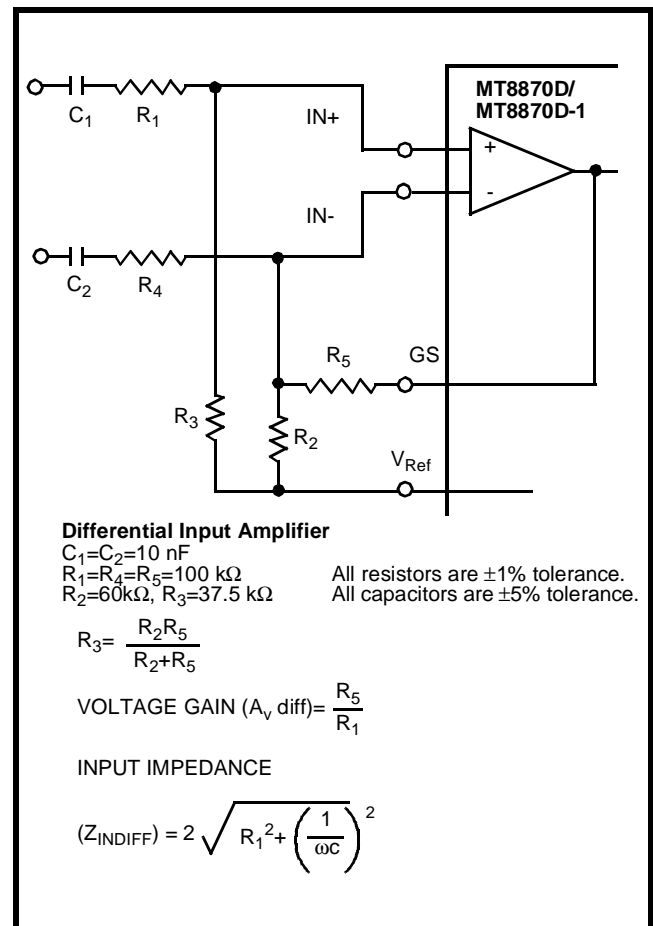

Figure 6 - Differential Input Configuration
The input arrangement of the MT8870D/MT8870D-1 provides a differential-input operational amplifier as well as a bias source (V_{Ref}) which is used to bias the inputs at mid-rail. Provision is made for connection of a feedback resistor to the op-amp output (GS) for adjustment of gain. In a single-ended configuration, the input pins are connected as shown in Figure 10 with the op-amp connected for unity gain and V_{Ref} biasing the input at $1/2 V_{\text{DD}}$. Figure 6 shows the differential configuration, which permits the adjustment of gain with the feedback resistor R_5 .